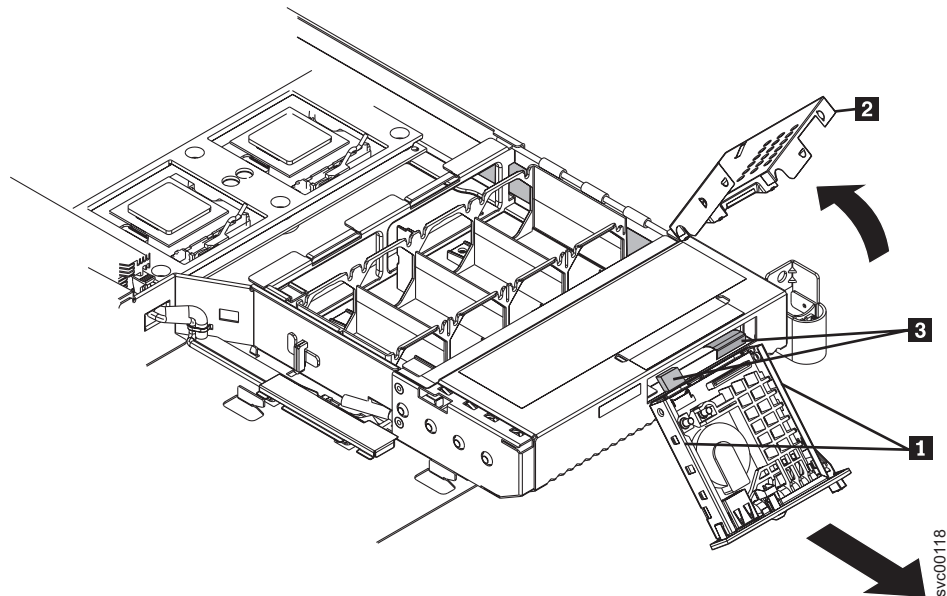

Figure 211. SAN Volume Controller 2145-8F2 with exposed operator information panel
5. Use a small screwdriver to push in the retention springs (**1** in Figure 211) on the sides of the operator information panel assembly.
8. Rotate the assembly cover (**2** in Figure 211) up and off of the operator information panel assembly.
9. Unplug the two cables from the rear of the assembly (**3** in Figure 211).